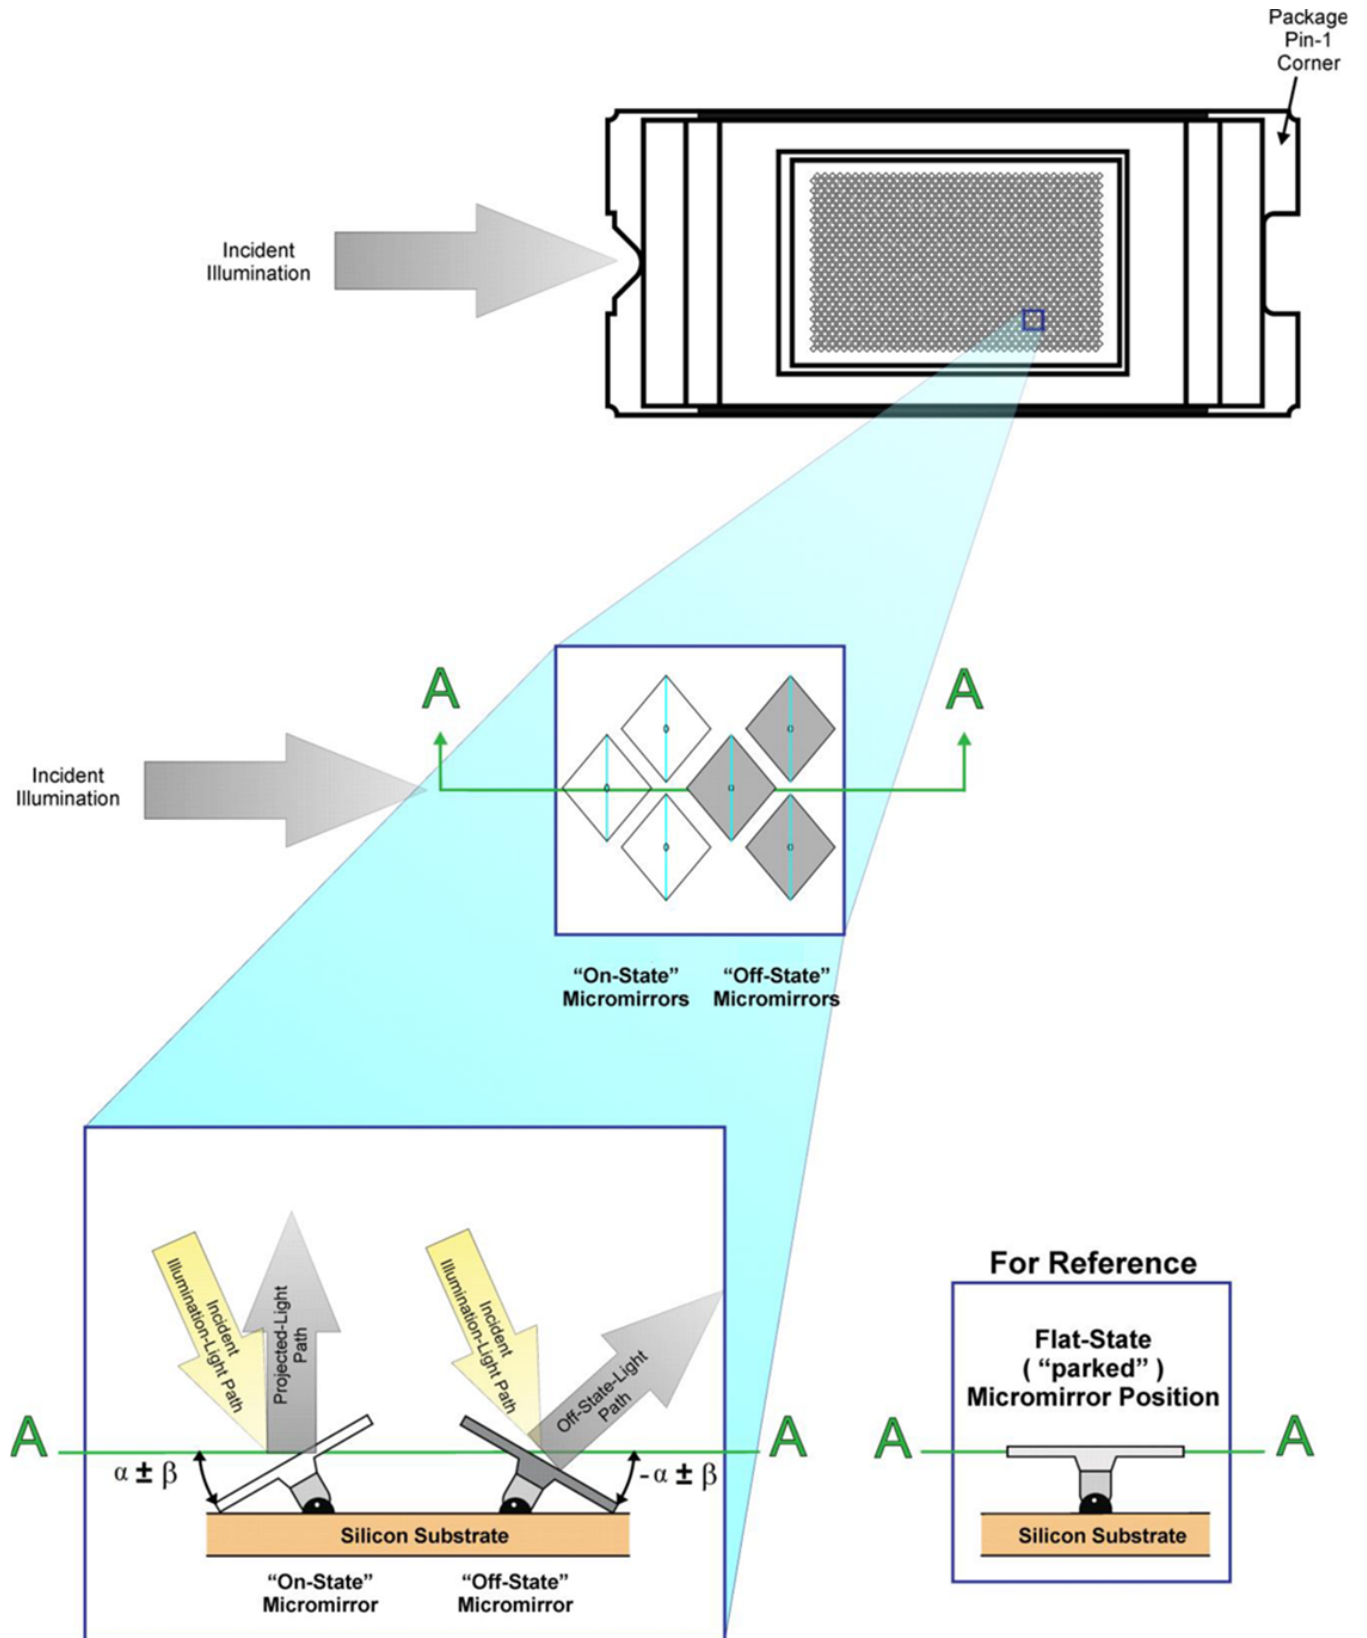

Figure 7. Micromirror Landed Positions and Light Paths
- (1) Measured relative to the plane formed by the overall micromirror array.
- (2) *Parking* the micromirror array returns all of the micromirrors to a relatively flat (0°) state (as measured relative to the plane formed by the overall micromirror array).
- (3) When the micromirror array is *parked*, the tilt angle of each individual micromirror is uncontrolled.
- (4) See Figure 7.
- (5) Additional variation exists between the micromirror array and the package datums.
- (6) When the micromirror array is *landed*, the tilt angle of each individual micromirror is dictated by the binary contents of the CMOS memory cell associated with each individual micromirror. A binary value of 1 results in a micromirror *landing* in an nominal angular position of +12°. A binary value of 0 results in a micromirror *landing* in an nominal angular position of -12°.
- (7) Represents the *landed* tilt angle variation relative to the nominal *landed* tilt angle
- (8) Represents the variation that can occur between any two individual micromirrors, located on the same device or located on different devices.
- (9) For some applications, it is critical to account for the micromirror tilt angle variation in the overall system optical design. With some system optical designs, the micromirror tilt angle variation within a device may result in perceivable non-uniformities in the light field reflected from the micromirror array. With some system optical designs, the micromirror tilt angle variation between devices may result in colorimetry variations or system contrast variations.
- (10) Micromirror crossover time is primarily a function of the natural response time of the micromirrors.
- (11) Performance as measured at the start of life.
- (12) Non-operating micromirror is defined as a micromirror that is unable to transition nominally from the -12° position to +12° or vice versa.
- (13) Measured relative to the package datums B and C, shown in the Package Mechanical Data section in Mechanical, Packaging, and Orderable Information.
- (14) The nominal DMD total optical efficiency results from the following four components:
Each micromirror is switchable between two discrete angular positions: -12° and 12° . The angular positions α and β are measured relative to a 0° flat reference when the mirrors are parked in their inactive state, parallel to the array plane (see Figure 7). The parked position is not a latched position. Individual micromirror angular positions are relatively flat, but do vary. The tilt direction is perpendicular to the hinge-axis. The on-state landed position is directed toward the left side of the package (see Figure 7).